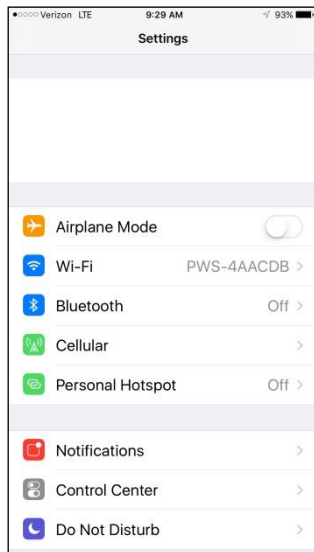
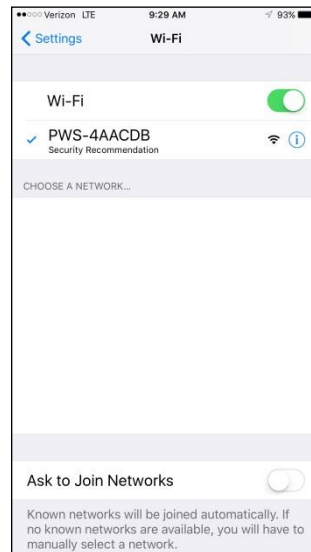

Figure 23
Figure 24
- c) **Example 3. Connect to the console WiFi server with an iPhone or iPad.** Choose the Settings icon  and Wi-Fi (Figure 23). Connect to the PWS- WiFi network, as shown in Figure 24 (your WiFi network name may be slightly different, but will always begin with PWS-).